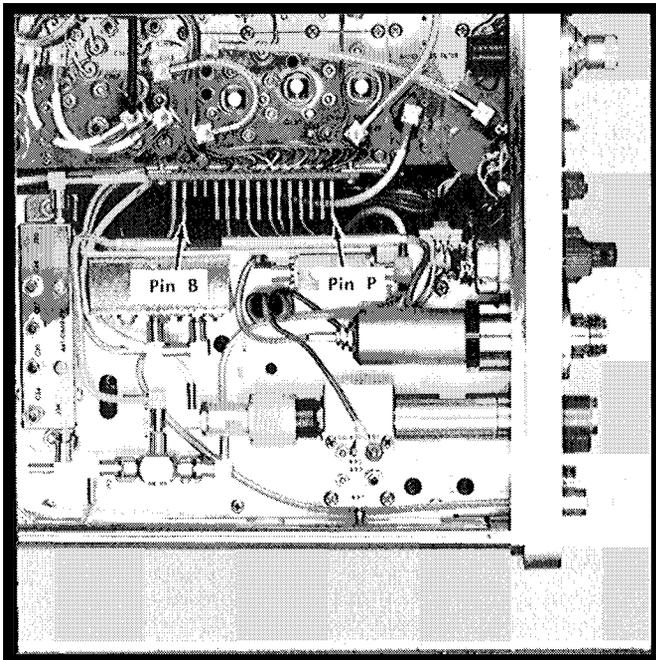

Fig. 6-17. Location of pin P on the honeycomb square pin connector.
- Establish zero volt reference level on the test oscilloscope by connecting the probe to chassis ground on the Type 491, then connect the probe to pin P of the square pin connector for the honeycomb assembly. See Fig. 6-17.